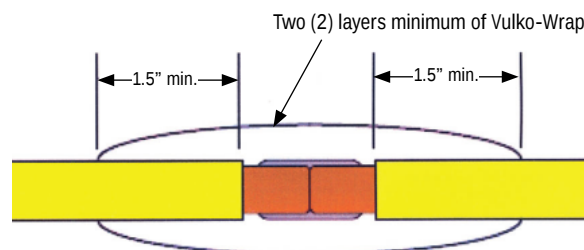

FIGURE 1 In-Line Splice
1. Begin wrapping the first layer of Vulko-Wrap onto the termination by holding the lead end on the surface and stretching the tape around until it overlaps itself approximately 50%. Continue to wrap the termination until the Vulko-Wrap extends 1.5 inches in each direction beyond the termination (See **FIGURE 1**).